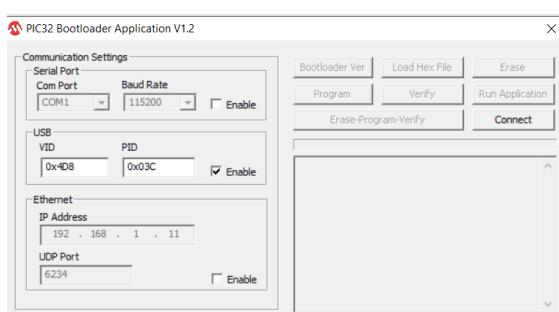

Fig. 8.5
9. Run the PC Program PIC32UBL.exe on windows computer. Enable USB option with 04D8 and PID 003C. (Refer Fig. 8.5)